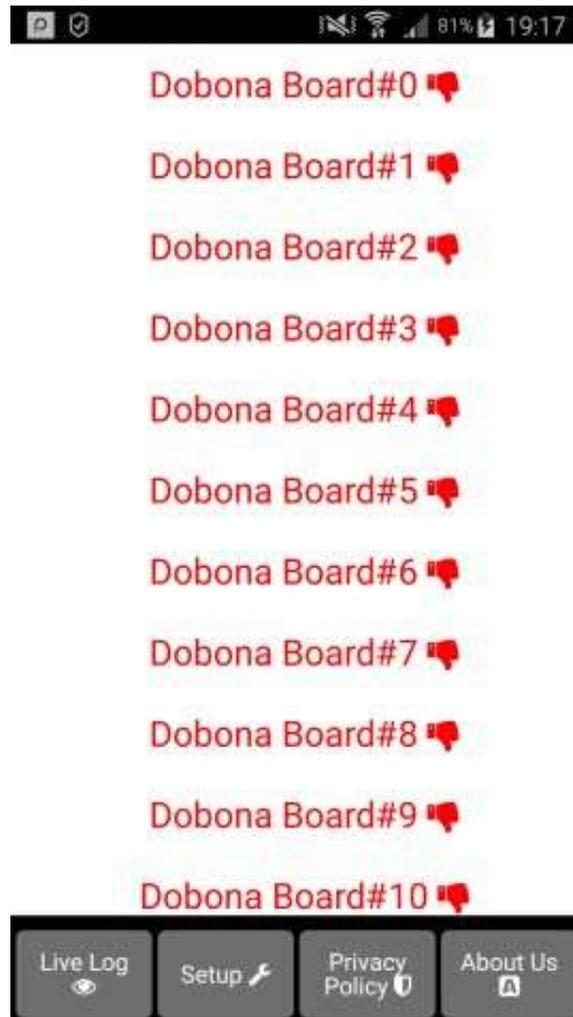

Fig 1.
4. User launches dobona app. the first screen that appears is the live_log screen with scrollable fifty lines, each for setting up a separate board. The red font with the downward thumb shows that no board has been setup so far (Fig.1).